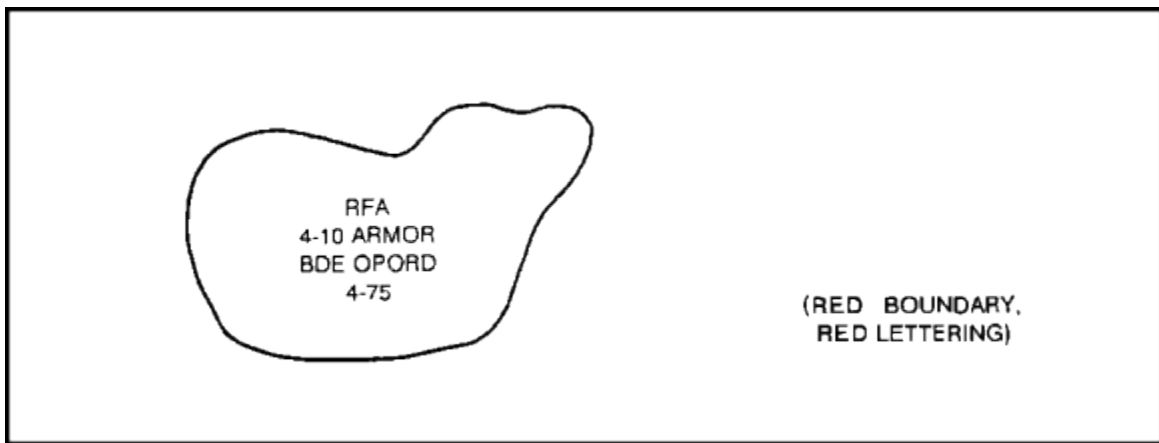

Figure 1-14. RFA graphic symbol
- Restrictive fire area (RFA)—an area with specific restrictions. Fires that exceed those restrictions are not delivered without coordinating with the establishing headquarters. An RFA is normally established by battalion or higher headquarters. The graphic symbol for the RFA is shown in Figure 1-14.